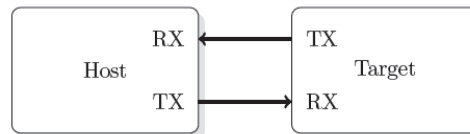

Figure 1 Basic serial communication.
The most basic method for communication with an embedded processor is asynchronous serial. It is implemented over a symmetric pair of wires connecting two devices (referred as host and target here, though these terms are arbitrary). Whenever the host has data to send to the target, it does so by sending an encoded bit stream over its transmit (TX) wire. This data is received by the target over its receive (RX) wire. The communication is similar in the opposite direction. This simple arrangement is illustrated in Fig.1. This mode of communications is called “asynchronous” because the host and target share no time reference (no clock signal). Instead, temporal properties are encoded in the bit stream by the transmitter and must be decoded by the receiver.